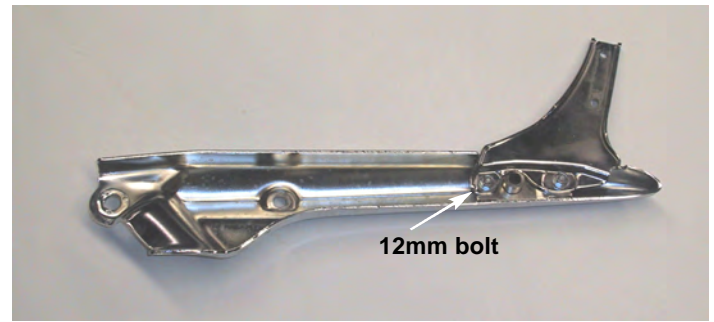

Figure 4.
12. Once the chrome strut has been removed from the motorcycle, remove the two factory 12mm bolts from the strut. The Paladin Intermediate Bracket will use these same mounting locations (12mm wrench). **Figure 4.**